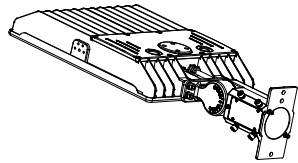

Figure 22
- Step 1: Remove the spare parts, the remaining parts such as (Figure 22).